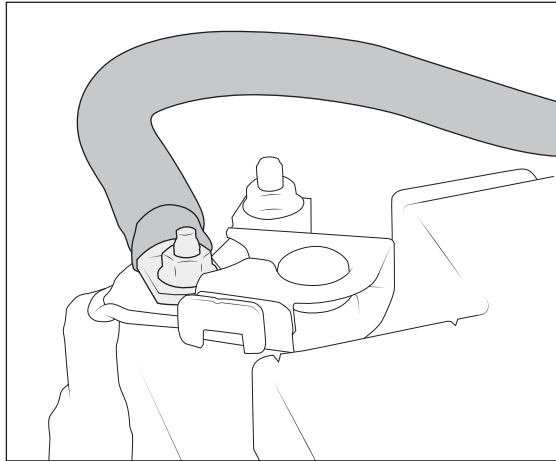

Figure 24
- 23. Attach negative line (fig. 24).